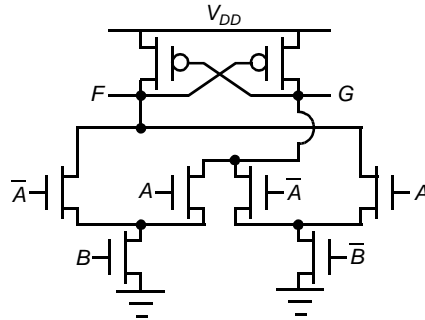

Figure 6.6 Two-input complex logic gate.
10. [E, Layout, 4.2] A complex logic gate is shown in Figure 6.6.
- c. Assuming  $W/L = 0.5\mu/0.25\mu$  for all *nmos* transistors and  $W/L = 2\mu/0.25\mu$  for the *pmos* transistors, produce a layout of the gate using Magic. Your layout should conform to the following datapath style: (1) Inputs should enter the layout from the left in polysilicon; (2) The outputs should exit the layout at the right in polysilicon (since the outputs would probably be driving transistor gate inputs of the next cell to the right); (3) Power and ground lines should run vertically in metal 1.